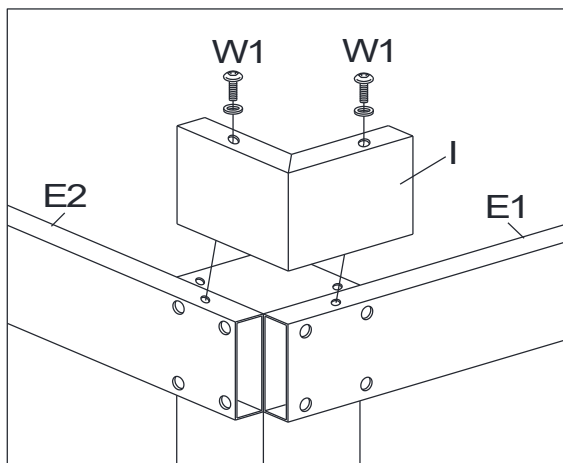

Fig.5
5. Attach the Corner Connector (I) to the Left Lintel (E1) and Right Lintel (E2) with Bolt (W1). See Fig.5.